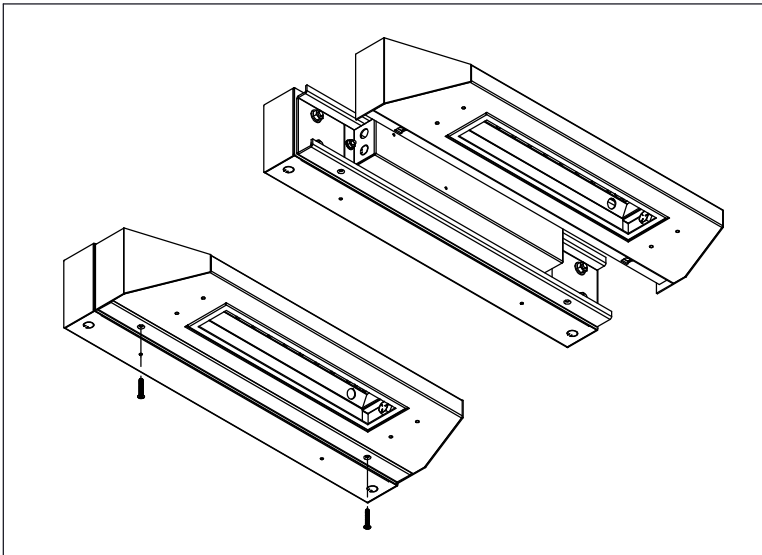

Figure 1
1. Remove housing screws, then remove Housing from Mounting Plate and Back Box (Fig. 1).